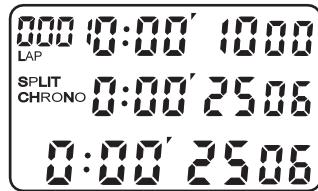

Fig. 4
- 10 seconds later the display will automatically be released to show the running LAP and SPLIT times to allow the user to keep track of progress, as shown in Fig. 4.